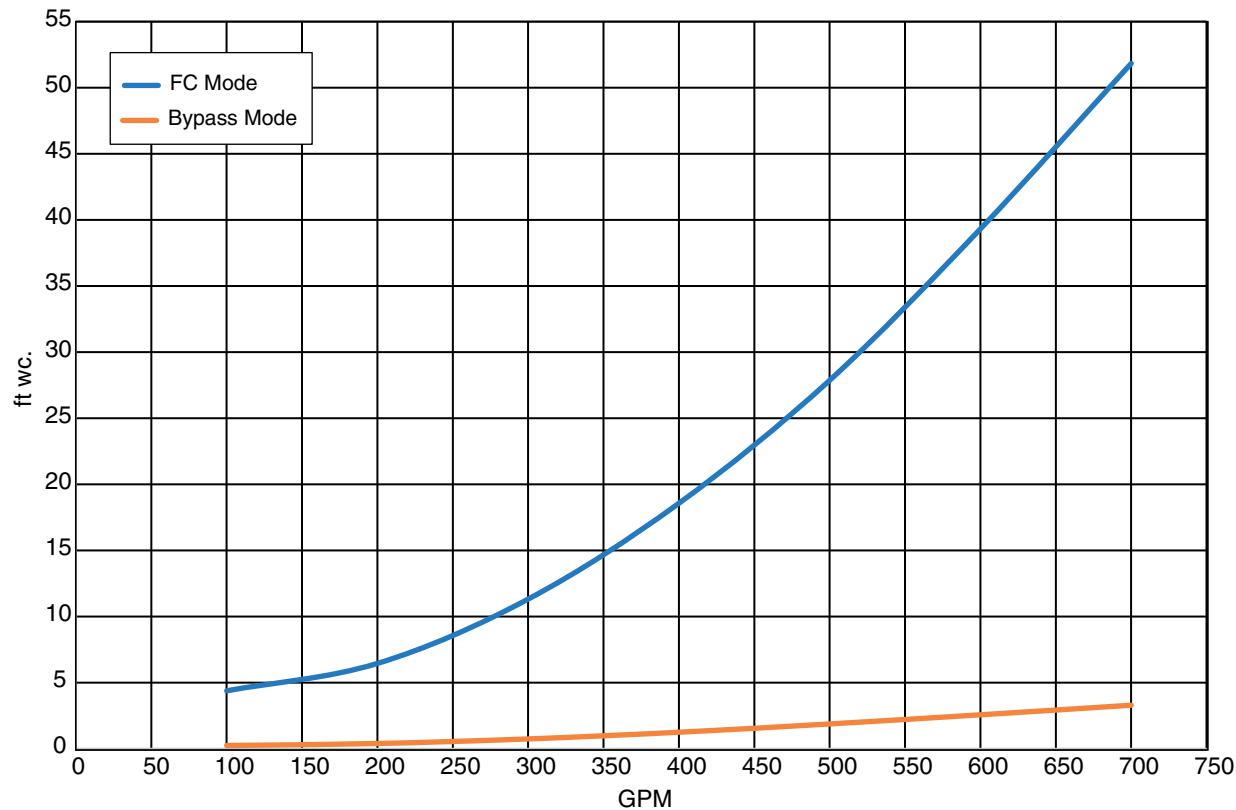

Fig. 25 — 09FC 020 Pressure Curve
2. All field power enters the unit through a hole located in the bottom of the control box shelf. Refer to Fig. 25 for field wiring details. Refer to Fig. 5-11 for exact location of field power entry. Be sure to seal entering power wire conduit per NEC requirements.